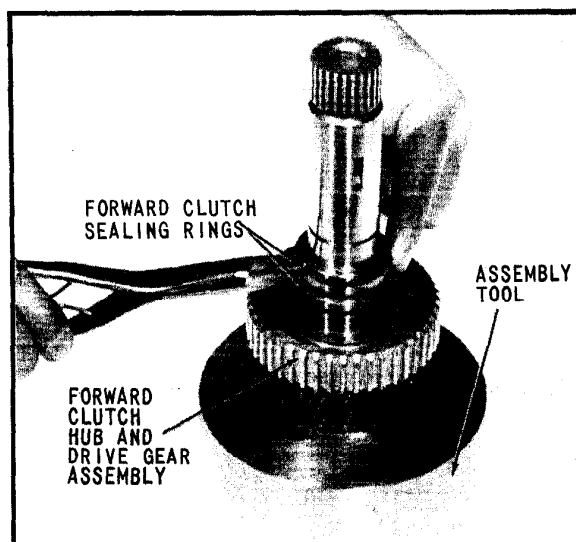

Fig. 46 Installing Forward Clutch Sealing Rings on Drive Gear
36. Install two (2) forward clutch sealing rings in grooves provided on drive gear, (Fig. 46). After installing rings in groove, hook ends and turn rings to insure freedom of rotation.